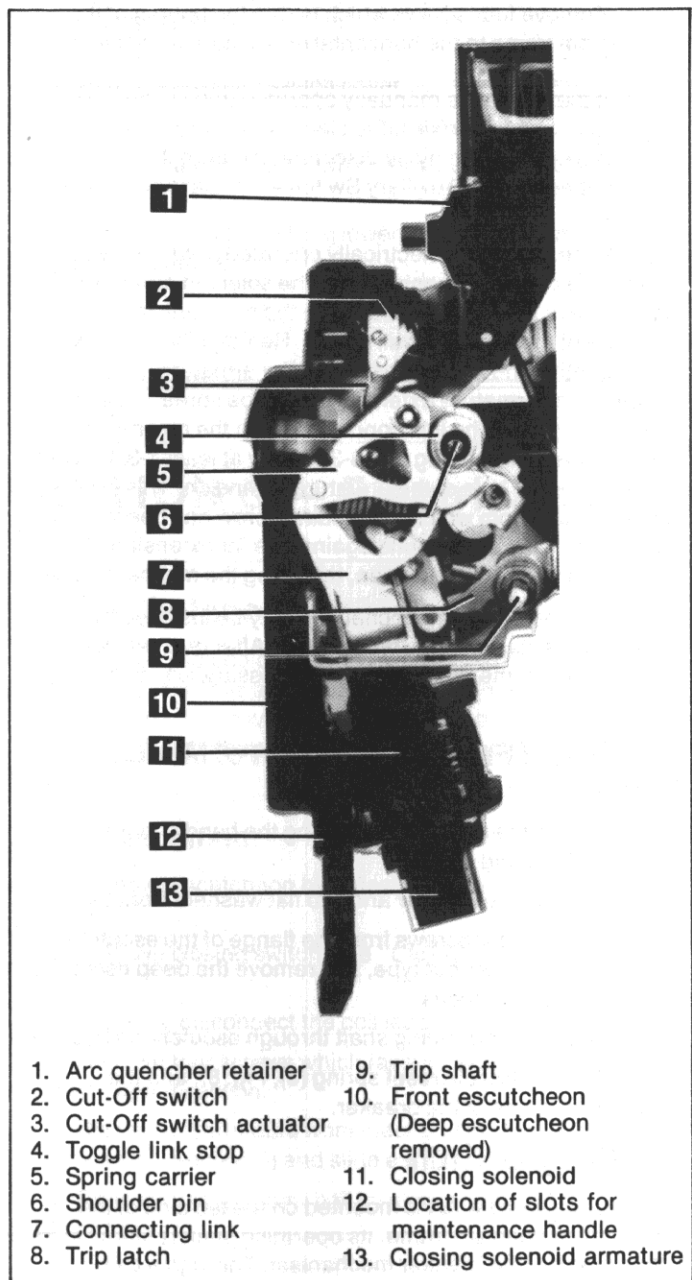

Fig. 7. Electric mechanism
5. Be sure not to exceed the maximum depression recommended. If higher adjustment numbers are used, it is possible that the stationary contacts will bottom, producing excessive back force on the breaker closing mechanism so that the toggle link (4), Fig. 7, will not pass center. As a result, the breaker will not complete its stroke and inadequate pressure and depression will result, followed by burn-up of contacts from load current.
1. Remove arc quencher retainer (1), Fig. 7, by loosening the two captured nuts with a 7/16-inch wrench.
hand side as in Fig. 7, the tripping movement of the latch is counterclockwise. Operation of any of the automatic trip devices or the trip push button causes the latch to move in the tripping direction. When the latch moves off the trip latch roller, the remaining force in the operating spring causes the mechanism toggle to collapse, resulting in the opening of the breaker contacts.
NOTE: Before making latch adjustments, check to make sure that the buffer paddle which stops against the end of the latch adjustment screw is rigidly fastened to the trip shaft. Hold the trip shaft (9), Fig. 7, steady and attempt to move the buffer paddle. If any relative movement between the two is noted, tighten the fasteners holding the buffer paddle to the trip shaft. Verify that no trip paddles are restricting the buffer leaf spring's shock absorption in the reset position.
The closing solenoid (11), Fig. 7, consists of a magnet, armature and coil. This assembly is located directly beneath the breaker mechanism to which it is connected by a link which ties the upper end of the armature to the spring carrier of the mechanism.